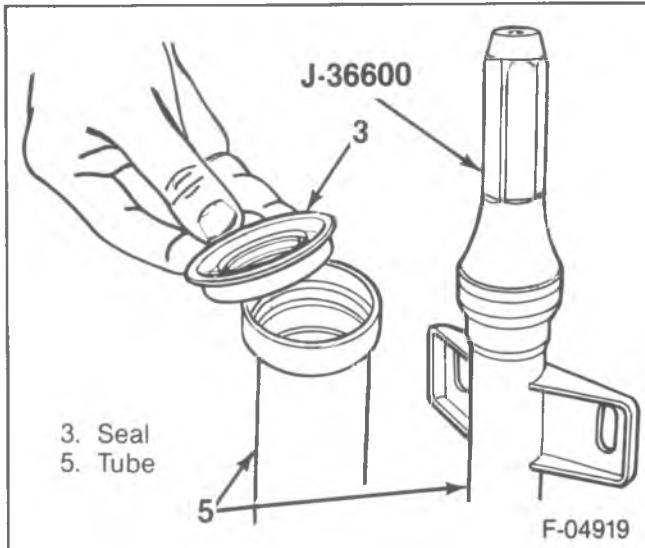
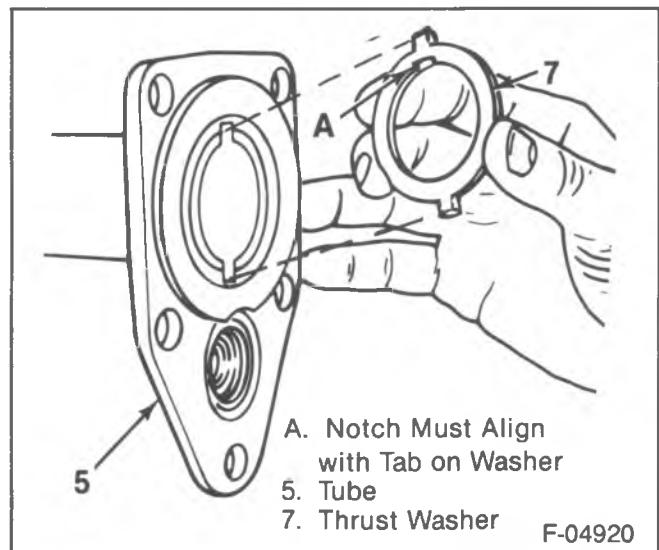

Figure 104—Installing the Shaft Seal
Figure 105—installing the Thrust Washer
- Bolts (28) to 47 N·m (35 ft. lbs.).
- Reposition the right hand sleeve (32) to the previously marked position using J-36599.
18. Seal (3).
19. Deflector (2) and shaft (59).
20. Bearing (4) into the tube (5) using J-33844.
21. Seal (3) into the tube (5) using J-36600 or J-22833 (figure 104).
22. Differential pilot bearing (21) into the output shaft (23) using J-33842.
23. Output shaft (23), sleeve (22) and thrust washer (20).
- 24. Shift shaft and fork (17) and spring (16).
- 25. Thrust washer (7) into the tube (5).
- Align the notch and apply grease to the washer to hold it in place (figure 105).
- 26. Shaft (1) into the tube (5).
- Carrier connector (9).
- 27. Tube (5).
- 28. Bolts (6) to the tube (5).